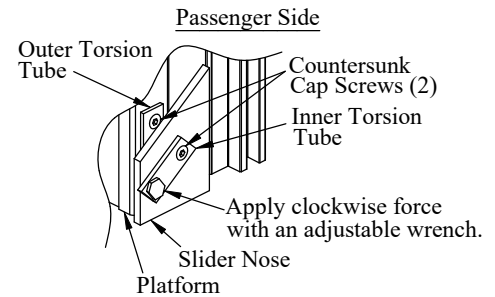

Figure 1: Torsion spring hardware.
Use Method #1 if the platform is equipped with a torsion spring as shown (Figure 1).
Use an adjustable wrench (Figure 1).
Continue to hold clockwise torque on the torsion spring holder (Figure 1).
9. **Raise** the passenger side slider by hand to expose the outer torsion tube holder (Figure 1).
11. **Pull** the outer torsion tube assembly out of the platform (Figure 1).